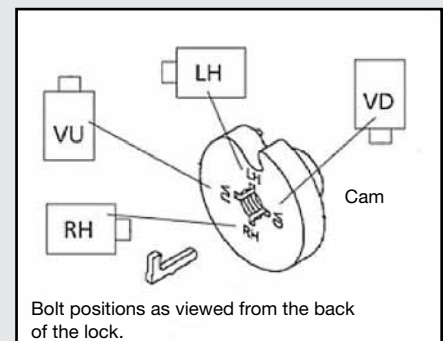

FIGURE 4
10. Next, rotate (counterclockwise) at least 1/2 turn until the groove in the spindle is aligned with the correct spline position. (Refer to the Spline Key Position Chart - Figure 4.)